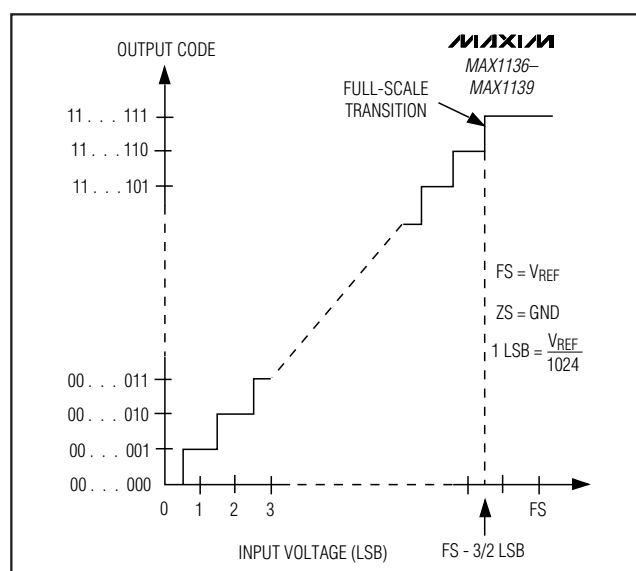
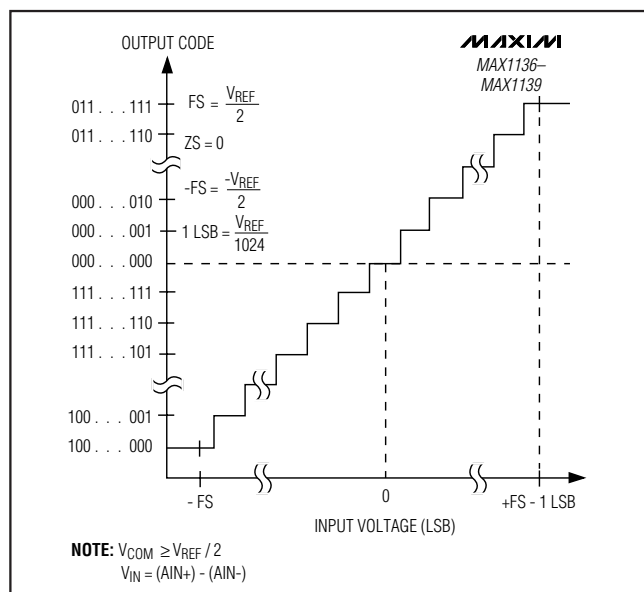

Figure 12. Unipolar Transfer Function
Figure 13. Bipolar Transfer Function
Output data coding for the MAX1136–MAX1139 is binary in unipolar mode and two's complement in bipolar mode with 1 LSB = (VREF/2N) where 'N' is the number of bits (10). Code transitions occur halfway between successive integer LSB values. Figure 12 and Figure 13 show the input/output (I/O) transfer functions for unipolar and bipolar operations, respectively.